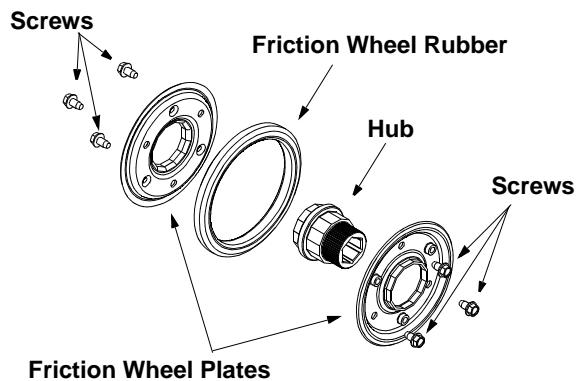
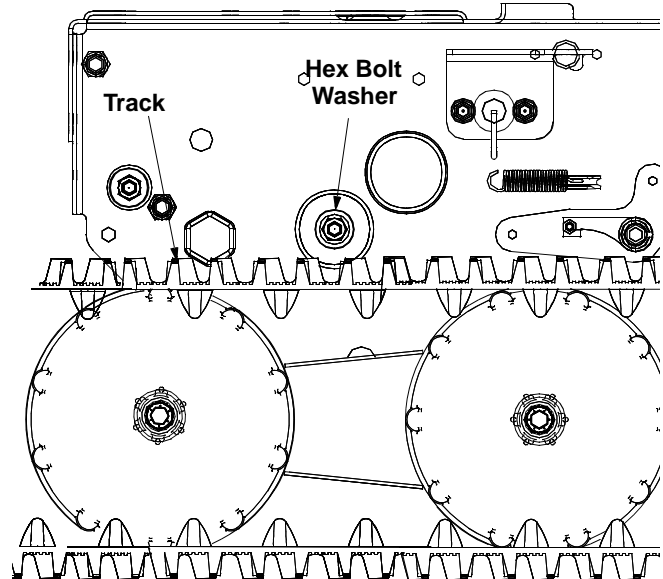

Figure 19
Figure 20
- Using a 7/8" wrench to hold the shaft, loosen, but do not completely remove, the hex bolt and washer on the left end of the shaft. See Figure 19 and Figure 20.